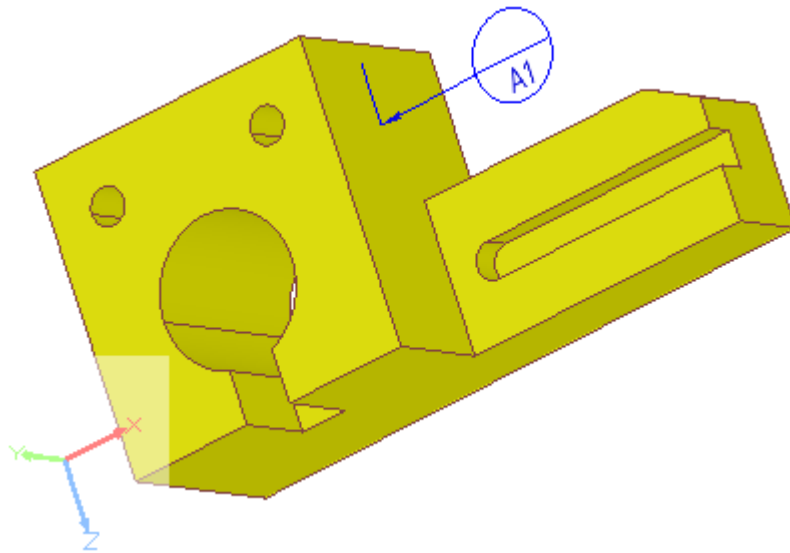

Figure 2. Datum target straight line with leader line and symbol
-  **Line Datum Target** - to open the Create Target Straight Line Wizard. The Figure 2 displays, how the created datum target (line) is presented on the geometry model in the  **3D View**.